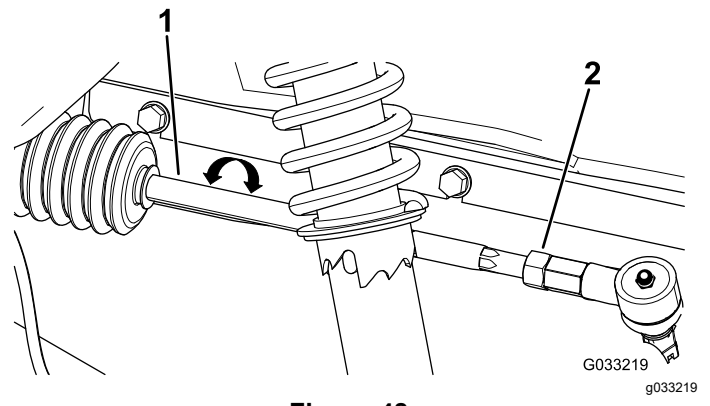

Figure 48
4. If the measurement does not fall within 0 to 6 mm (0 to 1/4 inch), loosen the jam nuts at the outer end of the tie rods (Figure 48).